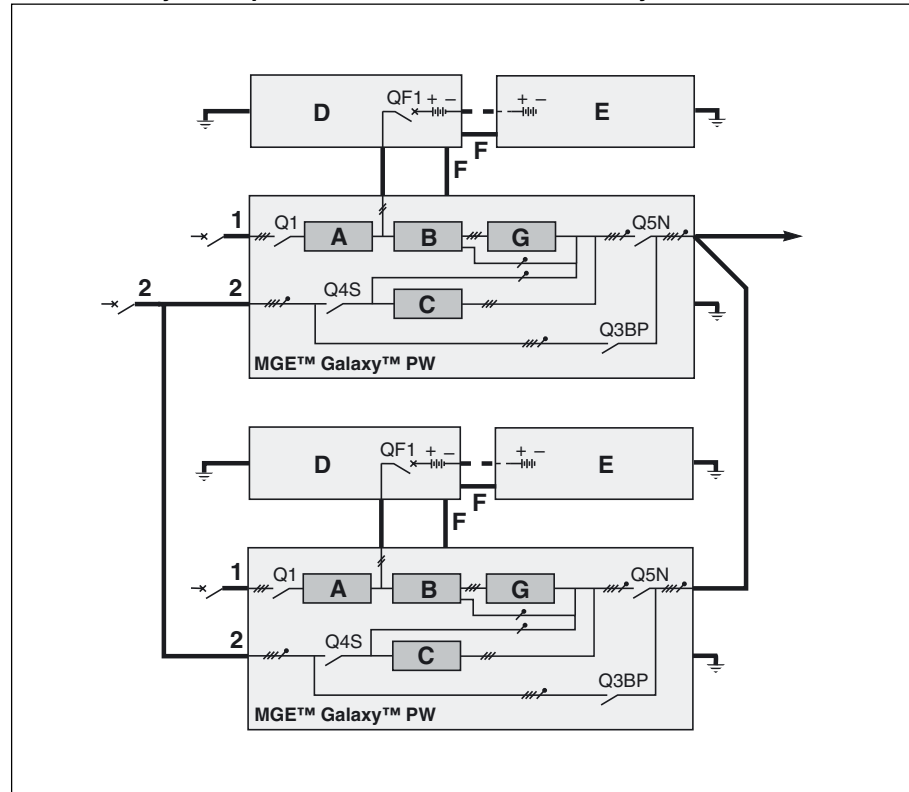

Fig. 9
► see figure 9 for a two parallel **MGE™ Galaxy™ PW** units combined for redundancy.
Key for figures 9 and 10: